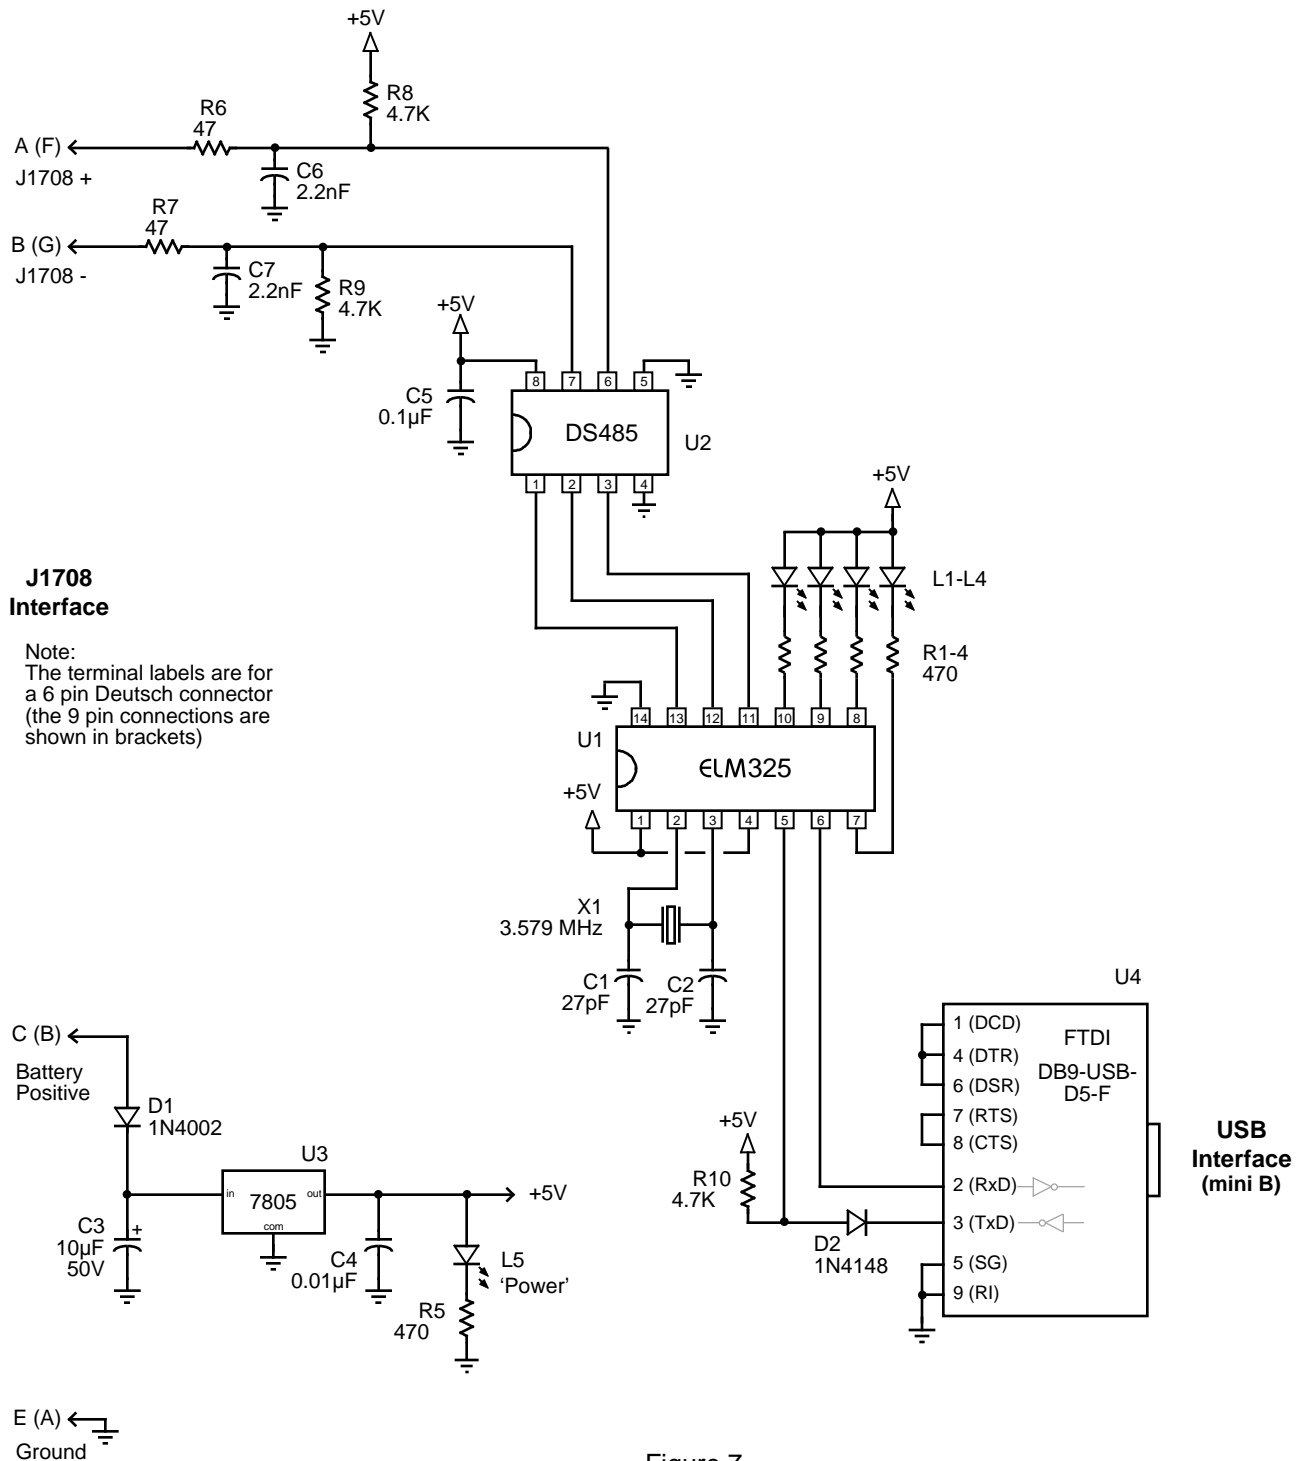
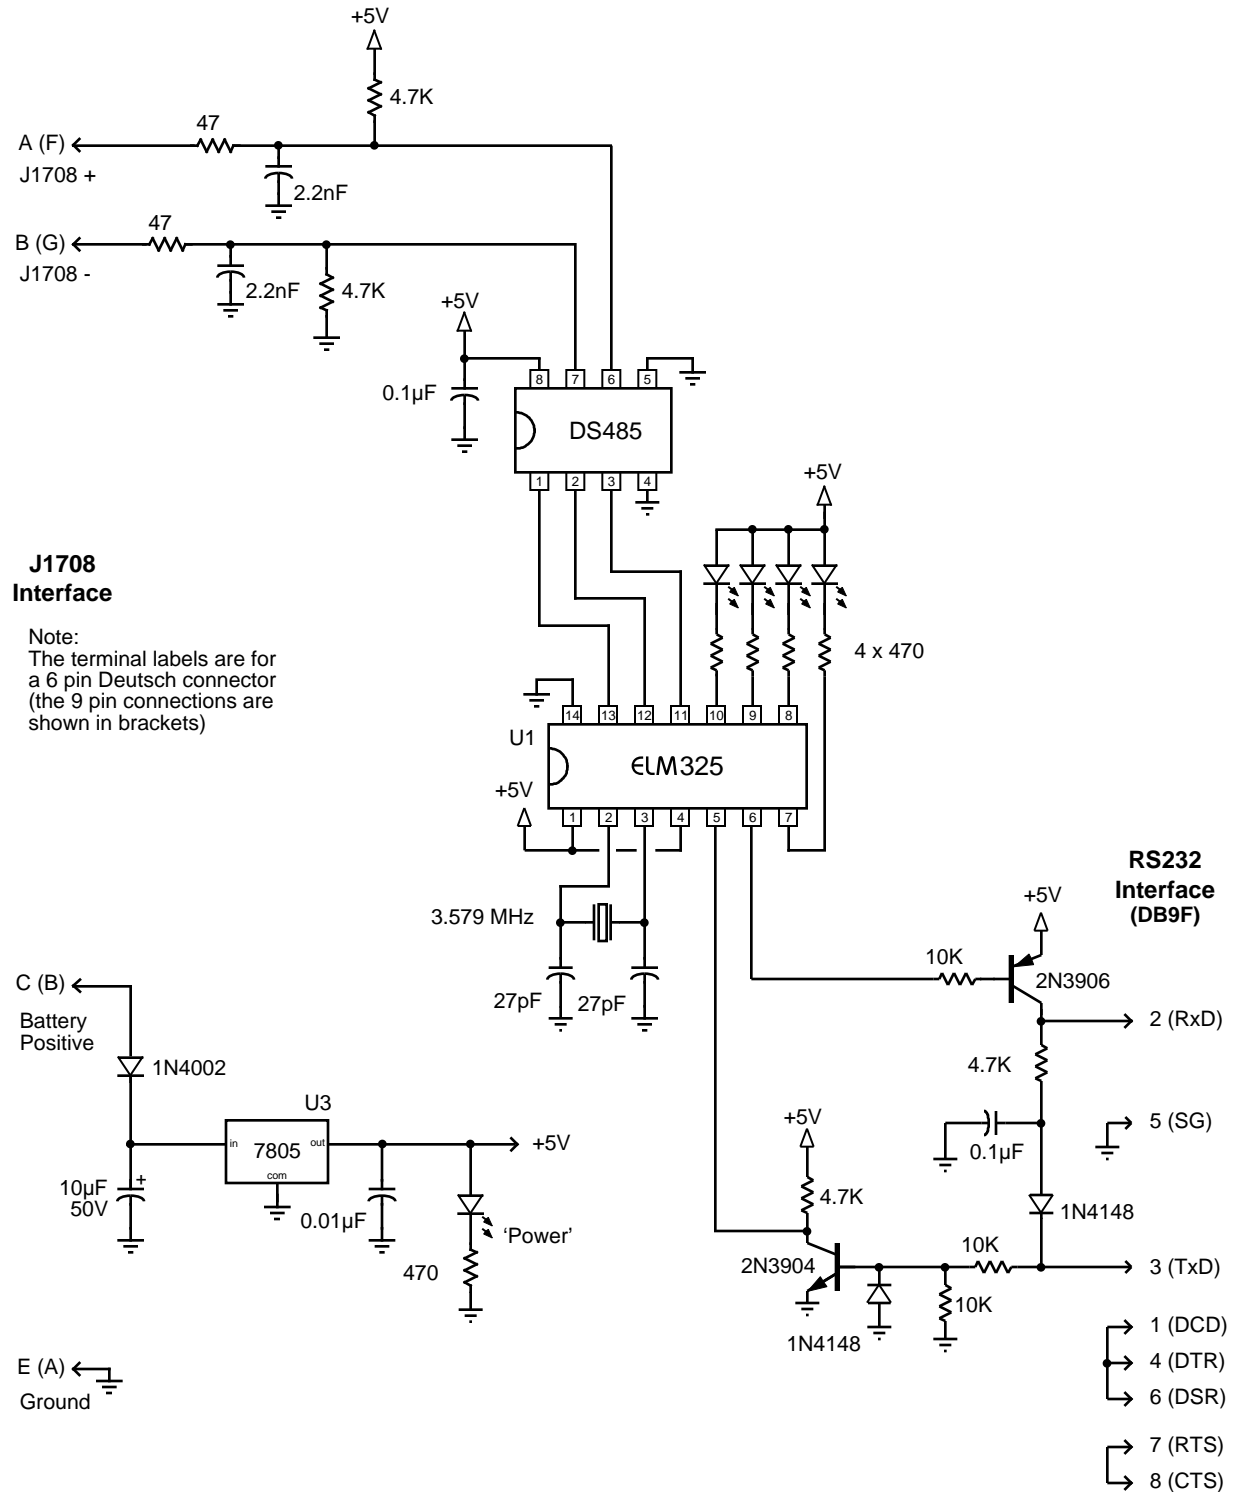

Figure 7.
Figure 9. An RS232 Serial Interface
To use the ELM325 in a circuit requires only a few interface components and a power supply, as shown in Figure 7.
Figure 7 shows a 'power on' LED (L5) connected between the output of the 7805 regulator and circuit common. This provides an indication that voltage is present, which is generally a good thing to provide in a circuit such as this. Another alternative might be to connect the LED and resistor between 5V and pin 12 of the ELM325 (which is the RE or Receiver Enable output). In this way, you could show that power is on, and that the RS485 receiver is also enabled (so the ELM325 is ready). If you do not use the pin 12 output to enable the RS485 receiver, then the RE output could be dedicated to the control of the LED from your software. This presents several opportunities for providing feedback to the user.
The final part of Figure 7 is the serial to USB converter, U4 (a DB9-USB-D5-F), which is a product of Future Technology Devices International which is also known as FTDI (see www.ftdichip.com). This is a handy little circuit that is built into a DB9 shell (that is,
The final circuit that we offer is that of Figure 9. It is identical to that in Figure 7, except that we show a discrete RS232 interface connected to the ELM325's pins 5 and 6. This circuit is more than adequate for this application, and is relatively low in cost. (It is also the same as the one that we suggest with our ELM327 and ELM329 integrated circuits.) Of course, if you want to reduce the amount of wiring, you may wish to consider products like the MAX232 family from Maxim Integrated Products (www.maxim-ic.com), and similar devices.
- Figure 9 (RS232), 26